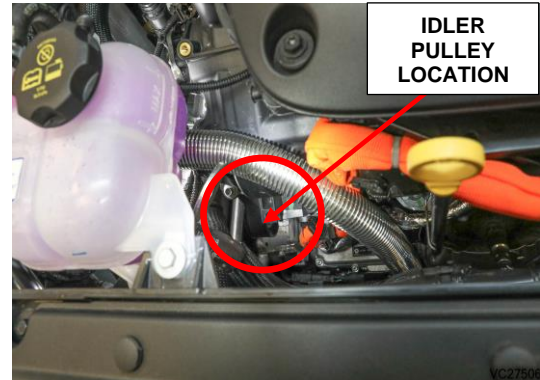

Figure 1 – Idler Pulley
2. Visually look for the presence of the idler pulley (Figure 1).